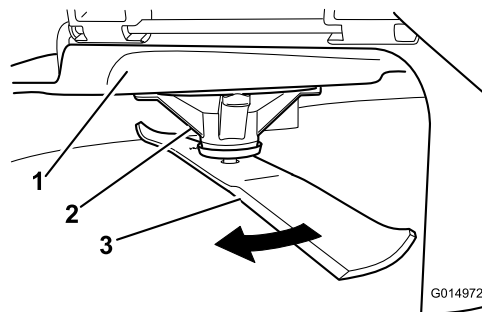

Figure 47
2. While wearing thickly padded gloves, or other adequate hand protection, slowly rotate the blade into a position that allows you to measure the distance between the cutting edge and the level surface the machine is on (Figure 47).